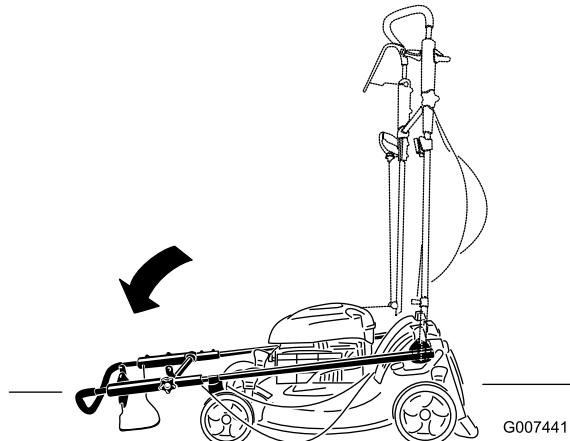

Figure 59
- Move the handle all the way forward and loosen the upper handle knob (Figure 59).